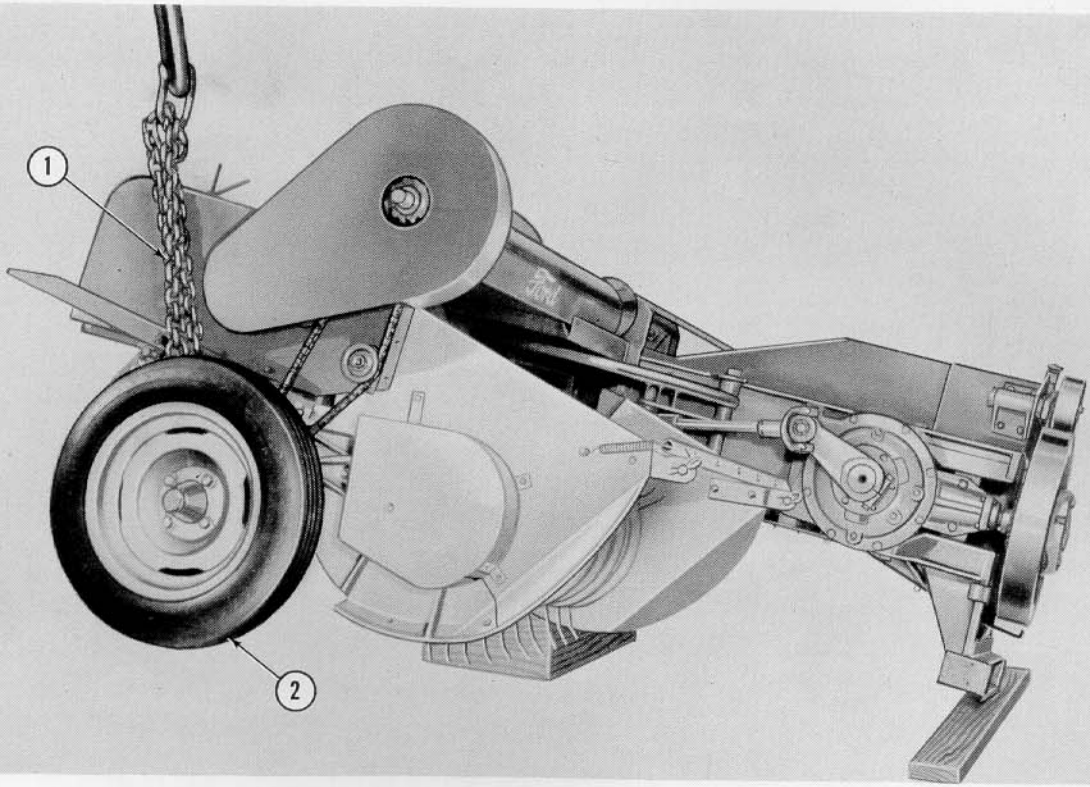
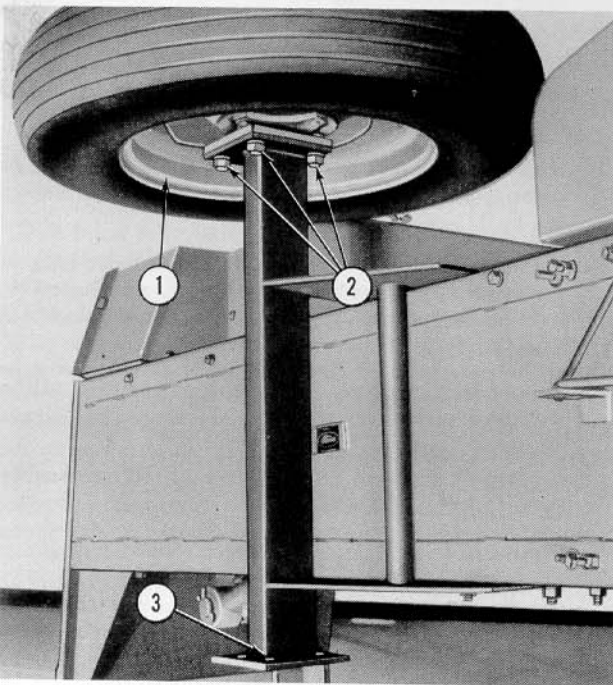
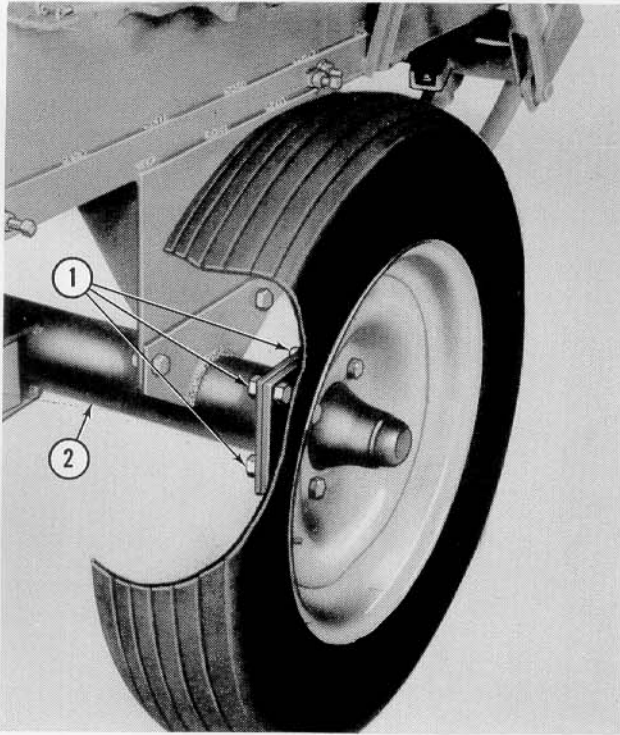

Figure 38
Figure 39
Figure 40
6. Lower the loader crane until the baler is positioned as shown in Figure 38. Working from the left side of the baler, remove the 5:00 x 15 baler wheel and mounting bracket (1), Figure 39, from the upper end of the shipping axle by removing the four $\frac{1}{2}$ " x $1\frac{1}{4}$ " hex head bolts, nuts and lockwashers (see 2).
7. Attach the small wheel (2), Figure 38 and mounting bracket to the right end of the baler axle as shown, then lower the baler to the ground and remove the chain (1).
9. Remove the 6:40 x 15 baler wheel and mounting bracket from the lower end of the shipping axle (3), Figure 39, and install it on the left end of the baler axle (2), Figure 40, with four $\frac{1}{2}$ " x $1\frac{1}{4}$ " hex head bolts, lockwashers and nuts. (1). Tighten the nuts and bolts securely.